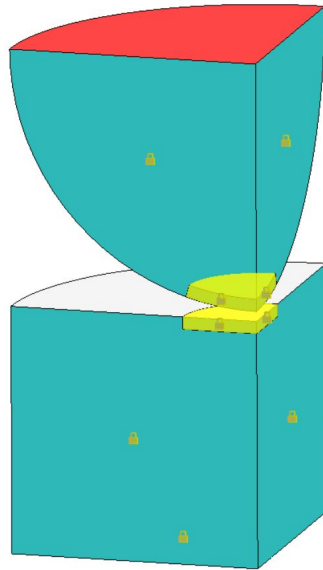

Figure 5: Boundary Conditions
- The model geometry and FE mesh are shown in Figure 5. It also includes the symmetry boundary conditions on the green surfaces which represent only one quarter of the domain. The base of the half-space domain is clamped, and we impose the force F as a pressure on the red surface. We impose Dirichlet boundary condition on the round surfaces which appears on the green surfaces so that the model can move in the vertical direction (i.e. the y -direction).
- Select all components that contain contact connections (the components that are highlighted in yellow in figure 5)